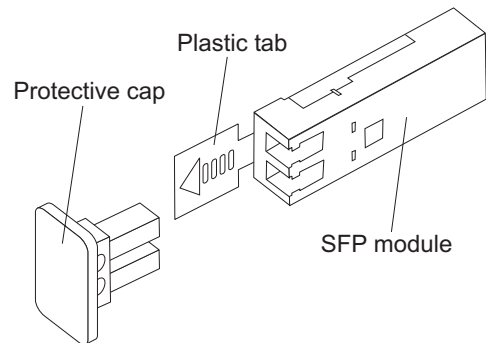

Figure 30. SFP Module
2. Remove the protective cap from the SFP module, as shown in Figure 30. Save the protective cap for future use.